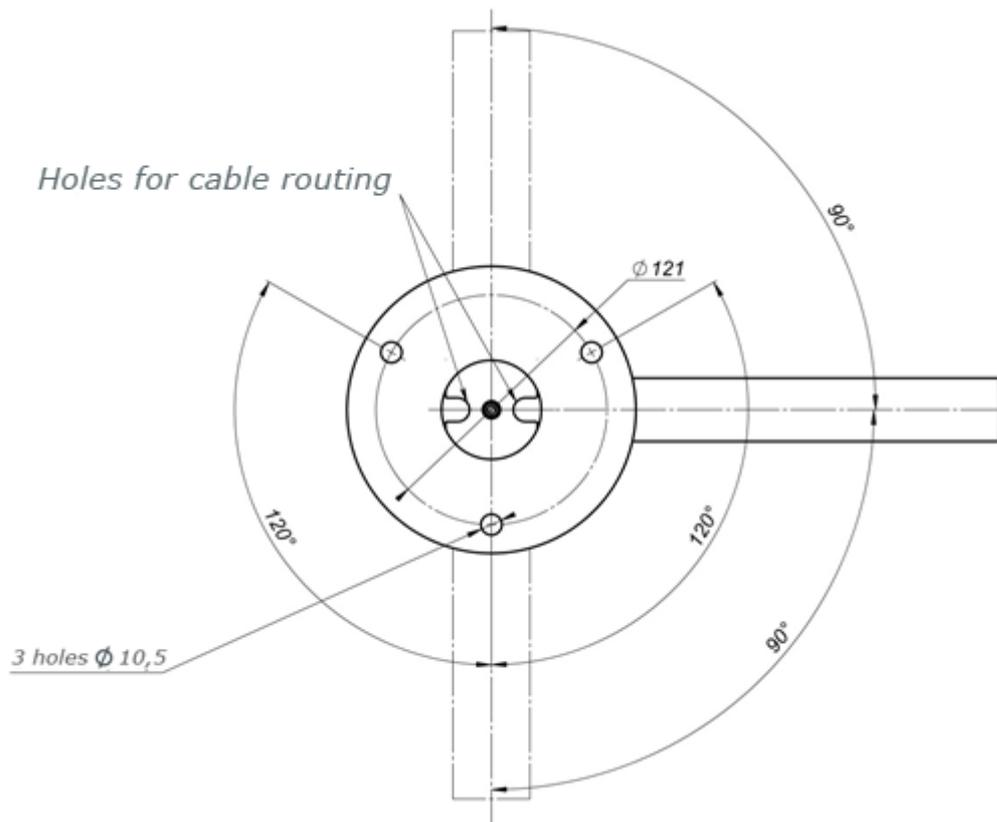

Fig. 4 Linkage dimension
7.2.5. Cable routing is carried out through a hole (Fig. 4) in the lower plate of swing gate. Cutting groove should be prepared.
7.2.6. Set the stand on prepared area (Fig. 4).